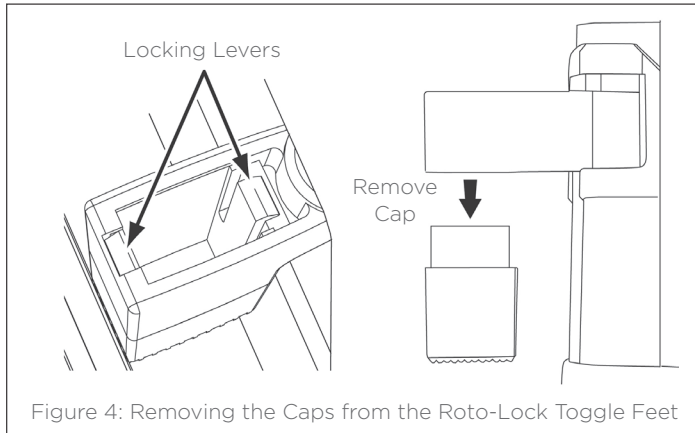

Figure 4: Removing the Caps from the Roto-Lock Toggle Feet
4. When installing into double drywall or other thicker ceiling materials, you may need to remove part of the two-piece toggle feet. Use a small screwdriver to gently release the two locking levers (see Figure 4).